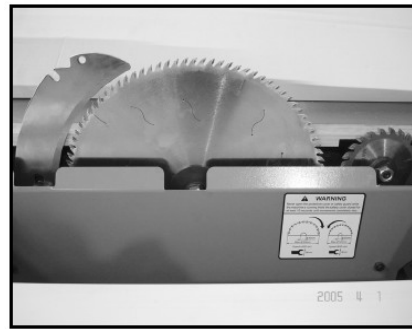

Fig.42
3. Move the sliding table all the way forward to expose the internal blade guard that covers the blades and riving knife. (Fig. 42)